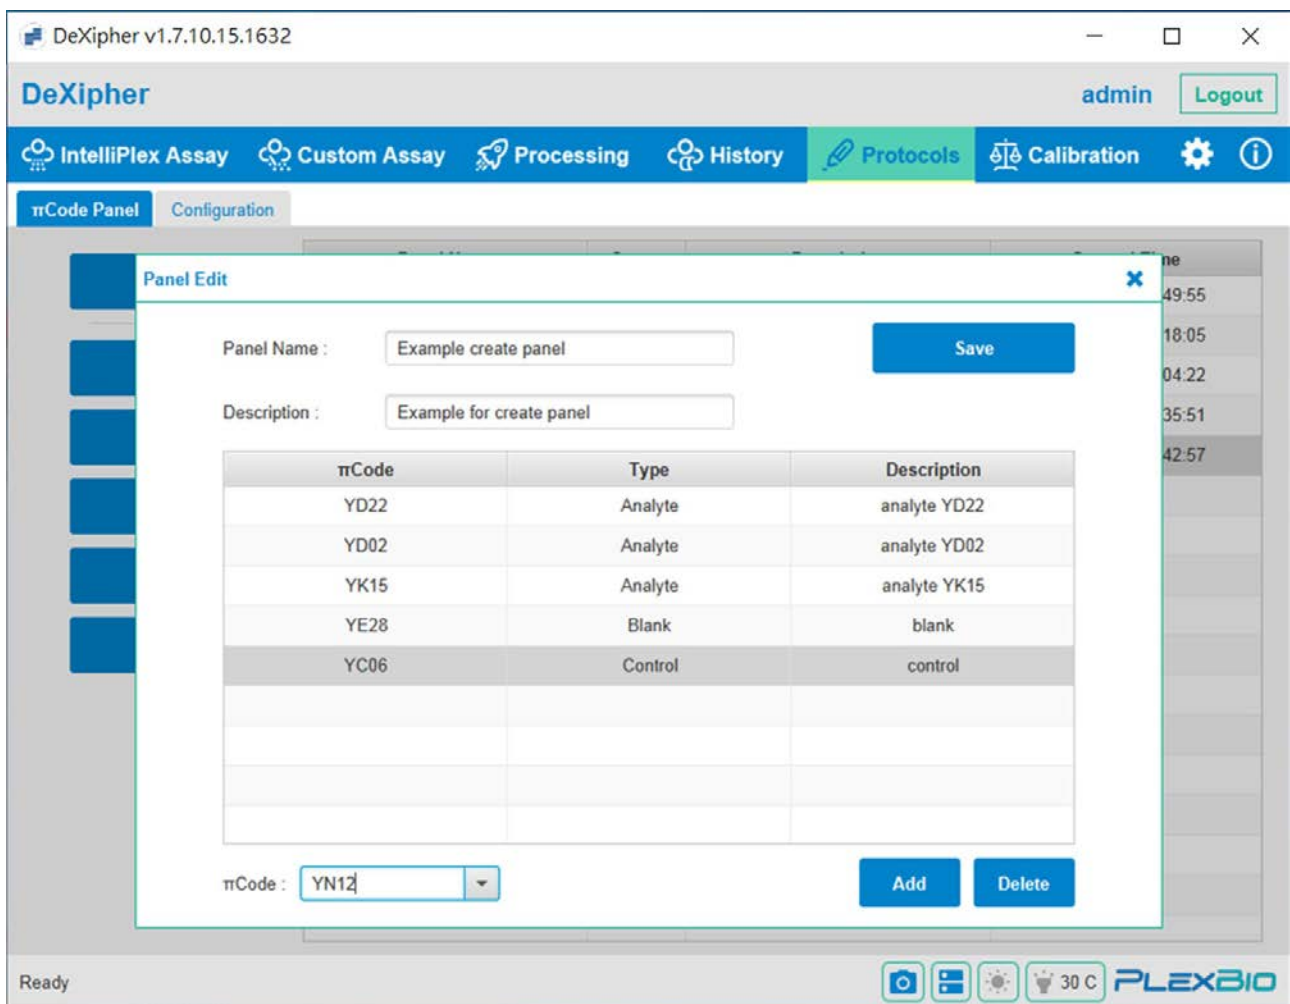

Fig. 38. Create  $\pi$ Code panel
Step 1. Enter a unique “Panel Name” (Fig. 38).